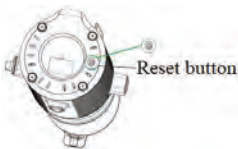

Fig.7
7. During operation, if the machine is stuck and not operable, please firstly press the power switch to "—" position and then press the reset button which is equipped at the bottom of appliance (see Fig.7). After it, press and hold the power switch to the "◀" position for few seconds then try operating again. When the reverse function cannot work, turn off the machine and reassemble following the instructions given. After reassembling please try to turn on the machine again.